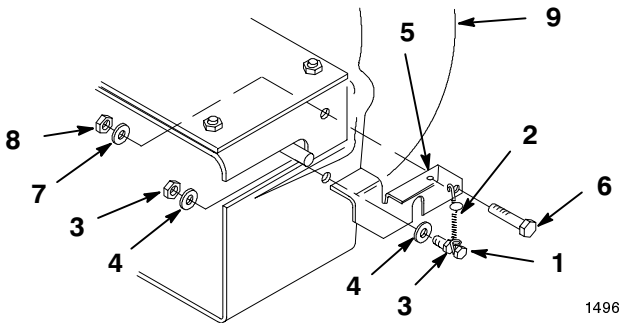

Figure 4
2. Remove the blower latch from existing blower as shown in figure 4.